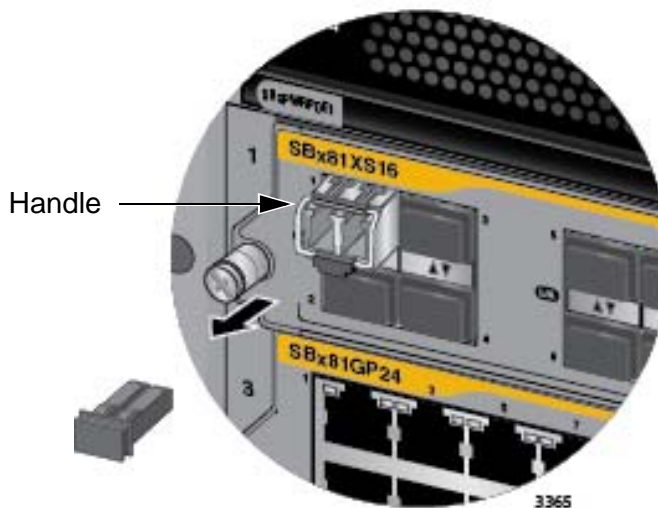

Figure 108. Verifying the Position of the Handle on the Transceiver in the AT-SBx81XS16 Line Card
4. Before connecting the cable, verify the position of the handle on the transceiver. If the transceiver is in an odd numbered slot, the handle should be in the upright position, as shown in Figure 108 on page 182. If the transceiver is in an even numbered slot, the handle should be in the down position.